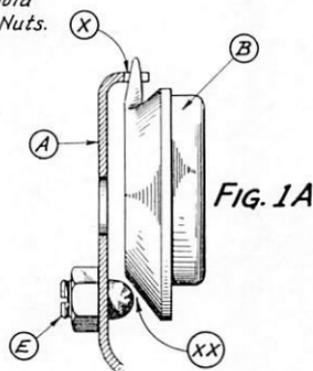
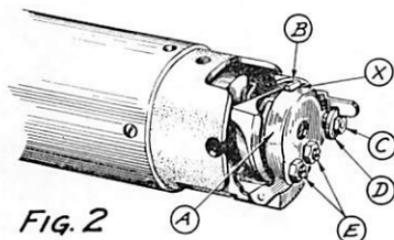

FIG. 1A
FIG. 2
Excessive clearance at (XX) Fig. 1A will cause rattling of Bobbin Case (B).
Adjust for clearance at point (X) Fig. 1A by means of Adjusting Screws (E) Fig. 2 using same procedure as outlined in the above 2nd STEP.
The clearance between Bobbin Holder (A) and Bobbin (B) at (X) (See Figs. 2 and 1A) should be approximately $\frac{1}{32}$ of an inch. To adjust, loosen Lock Nut (C) Fig. 2 and turn Threaded Washer (D) in or out until the desired clearance is obtained. Holding Threaded Washer (D) in position, tighten Lock Nut (C) securely.